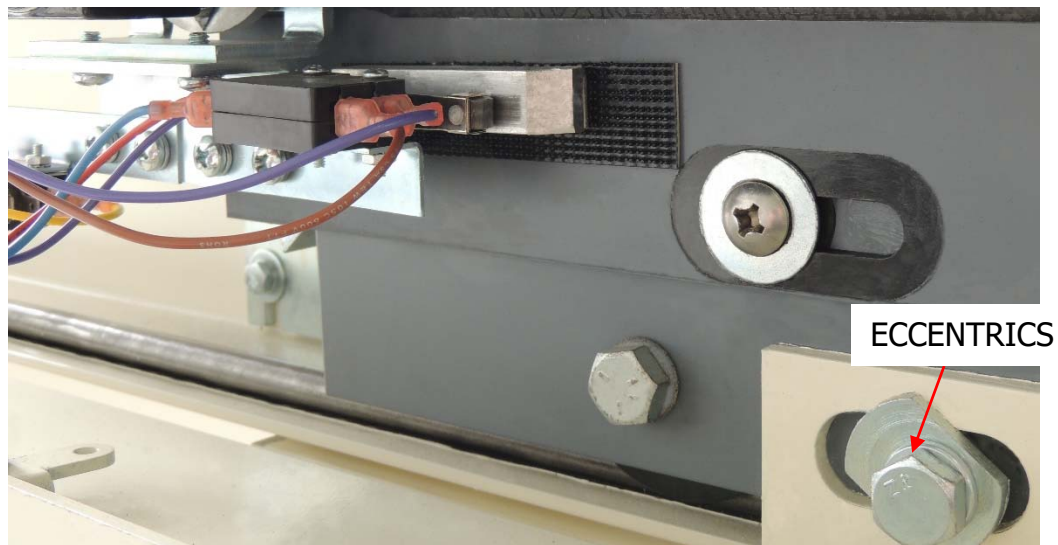

FIGURE 7
7. The door is adjusted by moving the door and travelbar assembly into the closed position and allowing the lockhead roller to drop behind the rear bar of the travelbar assembly. By turning the eccentrics on the door mounting hardware, the door can be moved up, down and diagonally to locate a parallel position with the VLC. The door must be raised into the bottom lock to provide maximum locking condition (Figure 7).